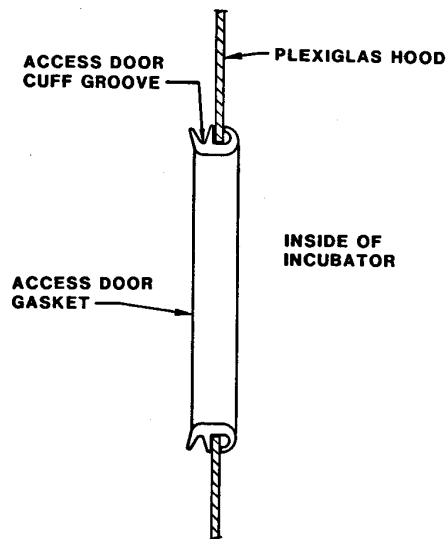

FIGURE 4.9 INSTALLATION OF ACCESS DOOR GASKET
8. INSTALL AN ACCESS DOOR GASKET behind each Access Door, as shown in Figure 4.9.